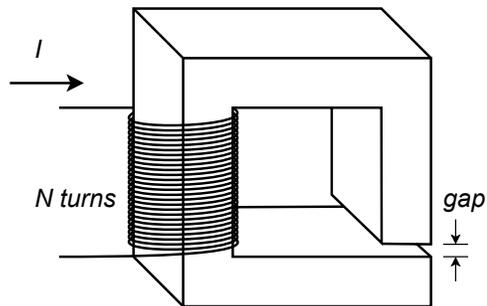

Figure 10.4
13. Given the magnetic circuit shown in Figure 10.4, assume the cross section is 1 cm by 2 cm with a path length of 6 cm. The entire core is made of sheet steel with the exception of a 1 mm air gap. Determine the current required to establish a flux of  $4\text{E}-4$  webers if  $N = 1000$  turns.